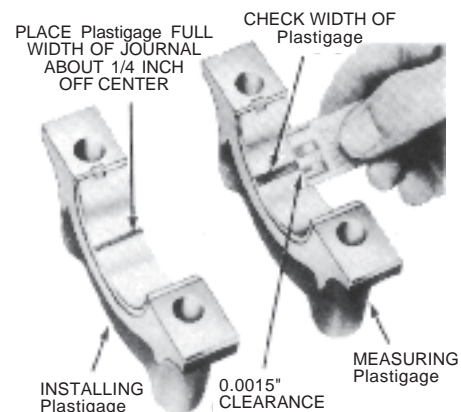

Fig. 35 Installing and Measuring Plastigage
3. Place a piece of Plastigage on bearing surface across full width of bearing cap and about 1/4 inch off center (Fig. 35).